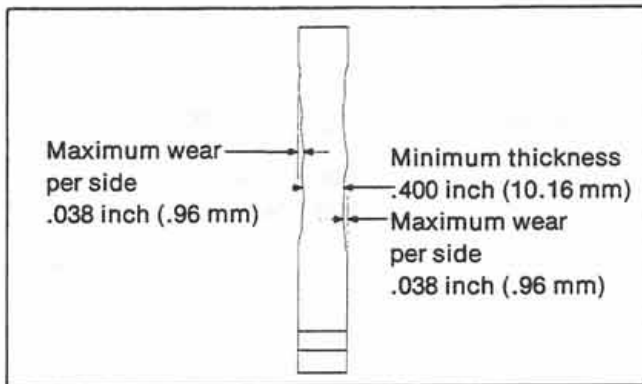

Figure 2:
2. Measure the brake disc for wear (Fig. 2), and if worn to less than .400 inch (10.16 MM), tapered more than .038 inch (.96 MM) along its wear path, or displays large grooves deeper than .038 inch (.96 MM), then replace the brake disc.